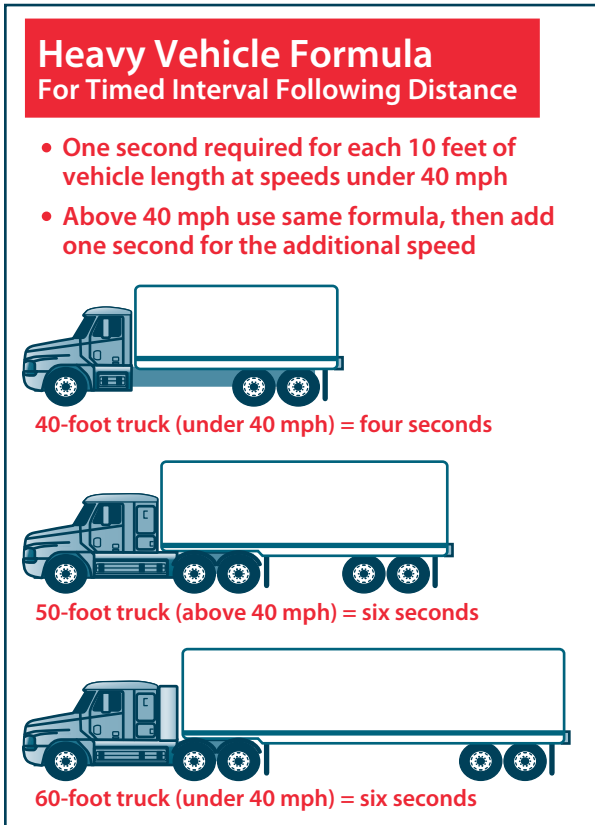

Figure 2.12
**How Much Space?** How much space should you keep in front of you? One good rule says you need at least one second for each 10 feet of vehicle length at speeds below 40 mph. At greater speeds, you must add one second for safety. For example, if you are driving a 40-foot vehicle, you should leave four seconds between you and the vehicle ahead. In a 60-foot rig, you'll need six seconds. Over 40 mph, you'd need five seconds for a 40-foot vehicle and seven seconds for a 60-foot vehicle. See Figure 2.12.